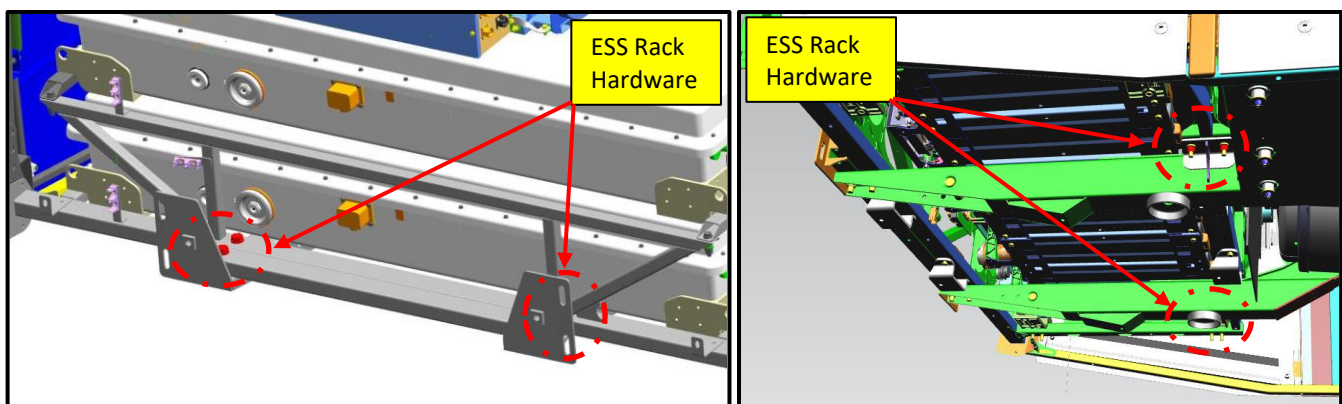

Figure 20: ESS Pack Assembly Mounting Hardware Location Reference.
63. Remove the hardware securing the ESS rack on the front and rear chassis. (2 sets each side) Set hardware aside for re-installation. See Figure 20.